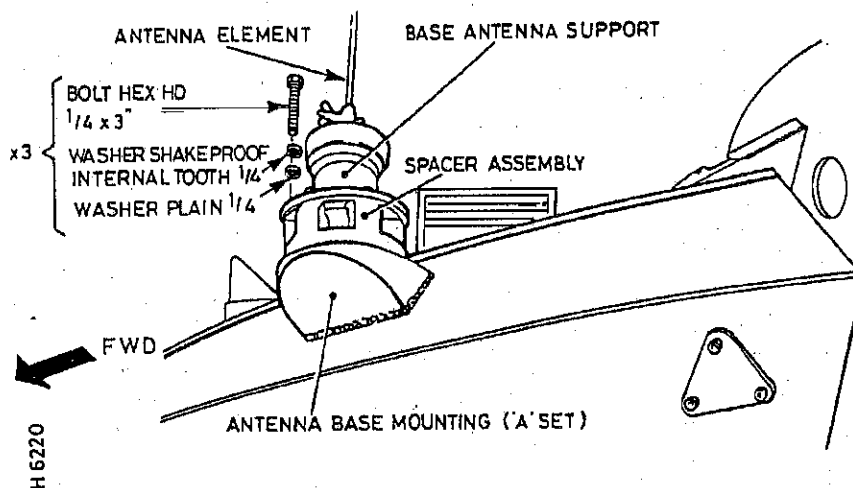

Fig 1 Antenna base assembly
15 Secure the Antenna Base Assembly (1) to the mounting bracket as shown in Fig 1. (Operation 1).